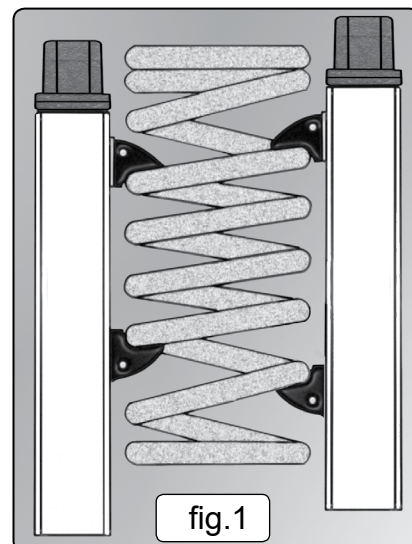

fig.1
- 4.1.1. Place the VS1824 body into position engaging the jaws on the spring as far apart as possible as shown in fig.1.